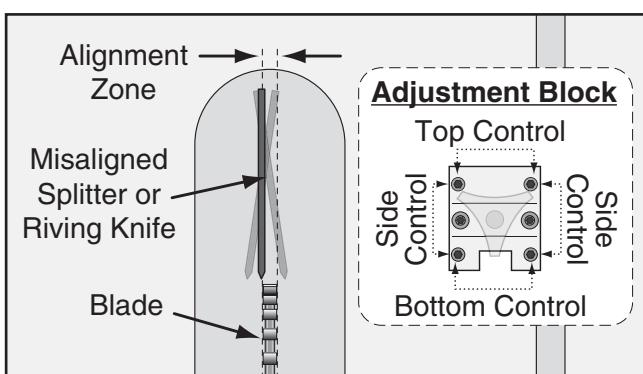

Figure 117. Set screws for adjusting spreader/riving knife position.
Figure 117 shows the set screws associated with controlling the mounting block position.
3. Loosen the two button head cap screws on the mounting block, then adjust the set screws on the block to move it in the necessary direction (see "Mounting Block" inset in **Figure 117**).